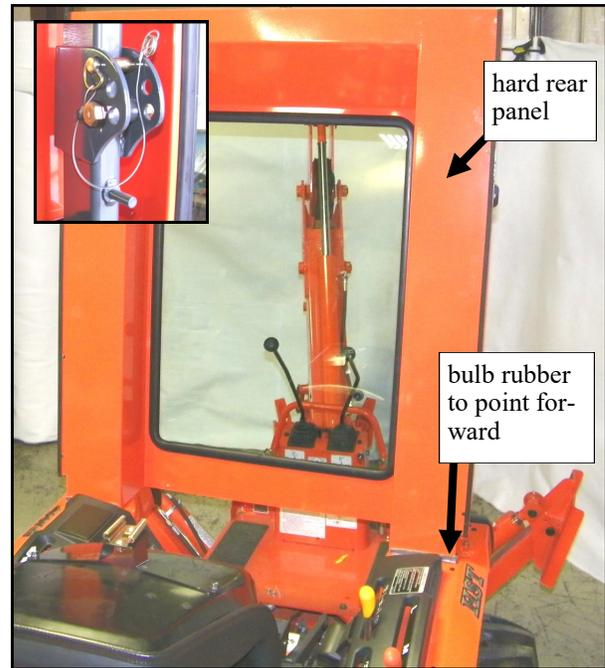

Fig. 3.2 (view from front left side of tractor)
3.2 See fig. 3.2. With assistance, place the hard rear panel on the tractor in front of the R.O.P.S. tubing oriented as shown with the window towards the rear. The bulb rubber on the bottom of the left and right sides should be pointing forward. NOTE: per the inset picture in the top left hand corner of fig. 3.2, be sure both removable pins for the fold-down R.O.P.S. are oriented for easy outboard pin removal once the optional hard rear panel is bolted in place.